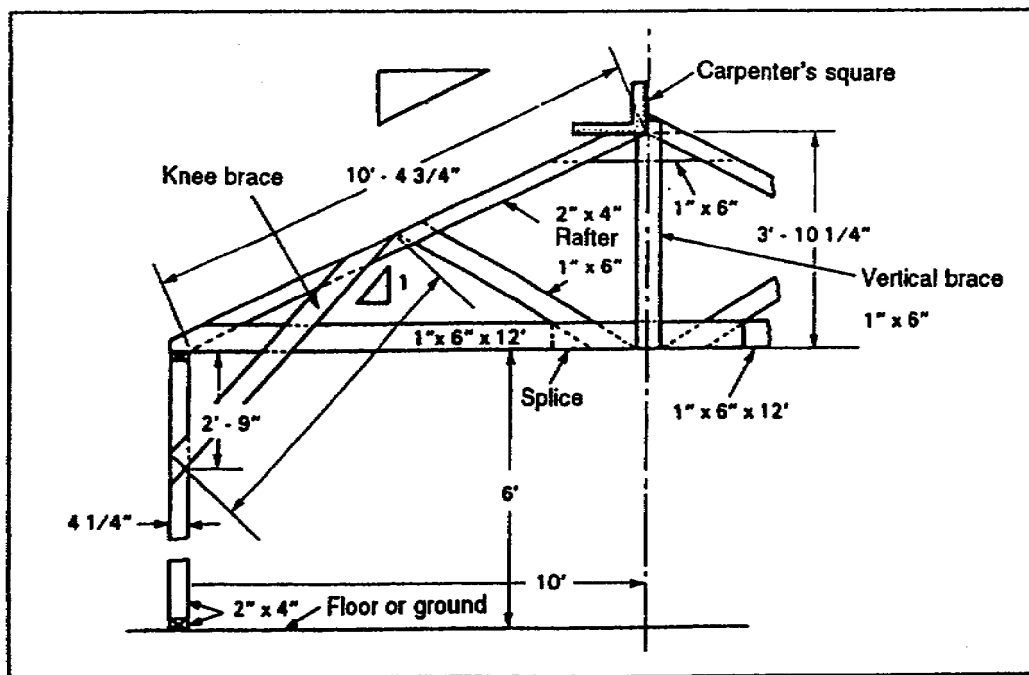

Figure 3-16. Rafter support detail
(1) Chord. A 1 by 6 or 2 by 4 chord is nailed across the rafters at the seat cut to tie them together. This chord forms a truss with the two rafters. A hanger or vertical member of 1 by 6 is nailed to the rafter joint and extends to the chord at midpoint, tying the rafter to the chord.
(2) Collar Beam. A tie or collar beam is a piece of stock (usually 1 by 4, 1 by 6, 1 by 8, or 2 by 4) fastened in a horizontal position to a pair of rafters between the plate and the ridge of the roof. This type of beam tends to keep the building from spreading. Most codes and specifications require them to be 5 feet apart or every third rafter, whichever is less. Collar ties are nailed to common rafters with four 8d nails to each end of a 1-inch tie. If 2-inch material is used for the tie, they are nailed with three 16d nails at each end. This type of bracing is used on small roofs where no ceiling joists are used and the building is not wide enough to require a truss. The lower the collar beam or chord, the better it works.
(3) Support. In small roofs that cover only narrow buildings and in which the rafters are short, there is no need for interior support or bracing. In long spans, the roof would sag in the middle if it were not strengthened in some way. To support long rafters, braces or other types of supports must be installed.
(4) Rafter Support. In wide buildings, where the joists or chords must be spliced and there is no support underneath, the rafter and joists support one another (see Figure 3-16).
d. Knee Brace. If no additional bracing is needed, the truss is set in place on the plates. If additional bracing is needed, a knee brace is nailed to the chord. The knee brace forms a 45° angle with the wall stud. For easier erection, the knee brace may be omitted until the rafter truss is set in place (see Figure 3-16).